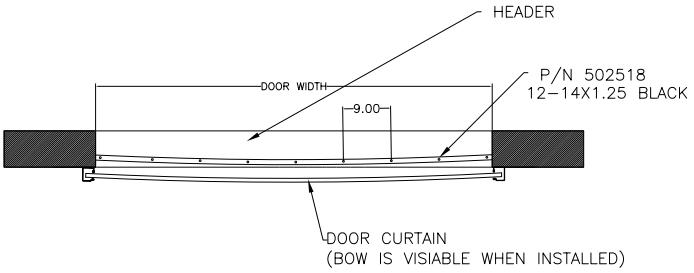

Figure 15
11.1 Close the door before installing the draft stop. Note that with the door down, the curtain may "bow" slightly near the top; this bowing is normal. For the draft stop to be effective, it should follow the "bow" in the door curtain so that it stays in contact across the entire width of the door curtain. Starting at one end, attach to header every 9" with appropriate fasteners. If necessary, trim excess at other end. See Figure 15.